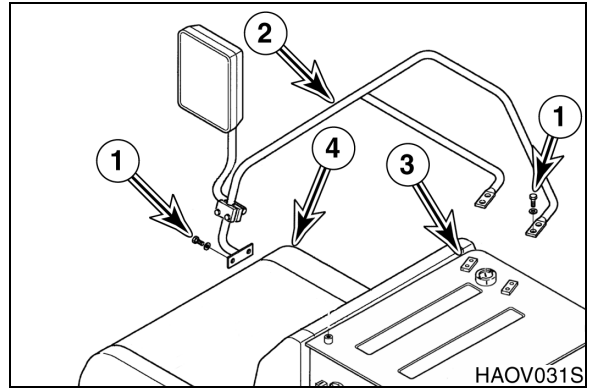

Figure 14
6. Install six bolts and washers (1, Figure 14), and handrail (2) on fuel tank (3) and cover (4).